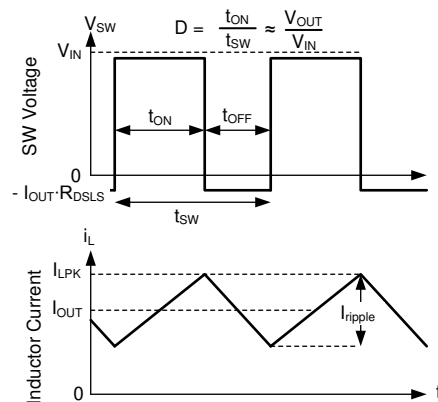

图 8-18. SW Voltage and Inductor Current Waveforms in Continuous Conduction Mode (CCM)
The following operating description of the LM6x4xx refers to 节 8.2 and the waveforms in 图 8-18. Both supply a regulated output voltage by turning on the internal high-side (HS) and low-side (LS) NMOS switches with varying duty cycle (D). During the HS switch on-time, the SW terminal voltage, V_{SW} , swings up to approximately V_{IN} , and the inductor current, i_L , increases with a linear slope. The HS switch is turned off by the control logic. During the HS switch off-time, t_{OFF} , the LS switch is turned on. Inductor current discharges through the LS switch, forcing V_{SW} to swing below ground by the voltage drop across the LS switch. The regulator loop adjusts the duty cycle to maintain a constant output voltage. D is defined by the on-time of the HS switch over the switching period: $D = T_{ON} / T_{SW}$.